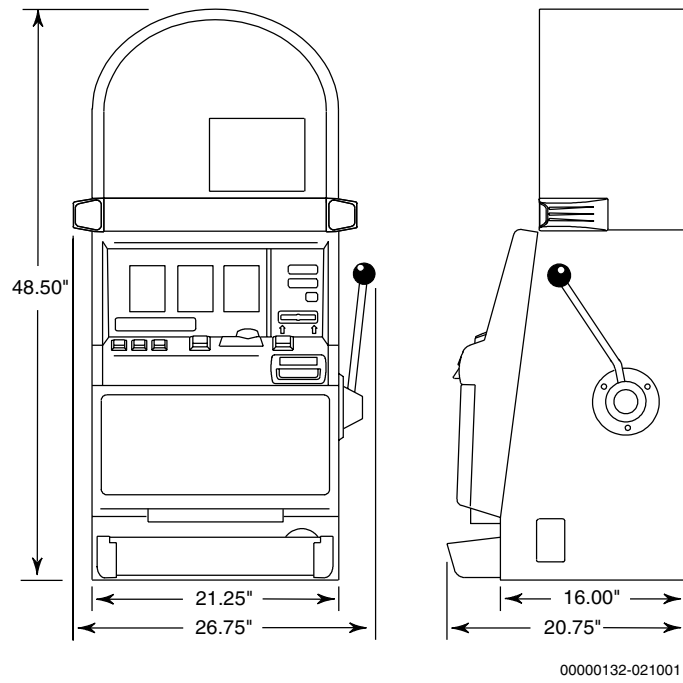

Figure 3-1. Cabinet Dimensions – Vision Series Upright with Round Top Box
- Cabinet Dimensions – Figures 3-1, 3-2 and 3-3